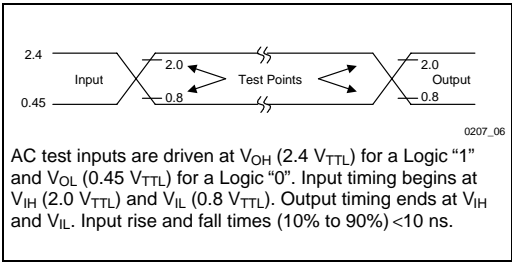
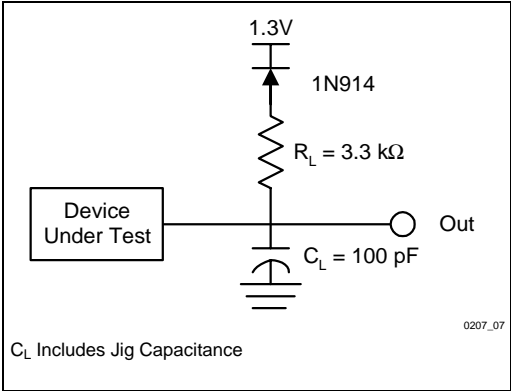

Figure 6. Testing Input/Output Waveform
Figure 7. AC Testing Load Circuit
5. See *Testing Input/Output Waveform* (Figure 6) and *AC Testing Load Circuit* (Figure 7) for testing characteristics.
4. See *Testing Input/Output Waveform* (Figure 6) and *AC Testing Load Circuit* (Figure 7) for testing characteristics.